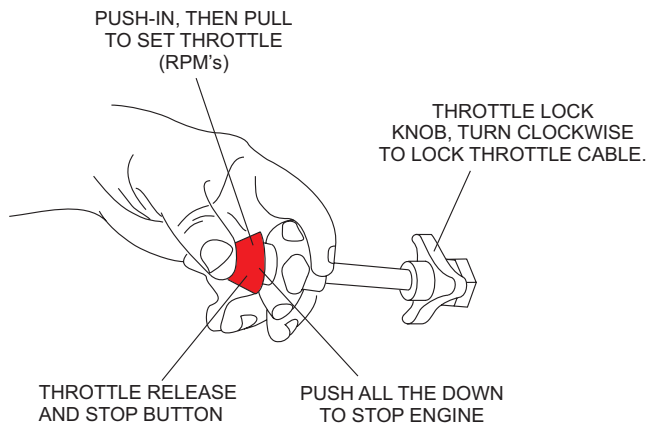

Figure 9. Throttle Control Knob
2. **PUSH** the "RED" button (Figure 9) on the throttle control and pull the round black knob about halfway out. Make sure that the throttle lock knob has been dis-engaged.